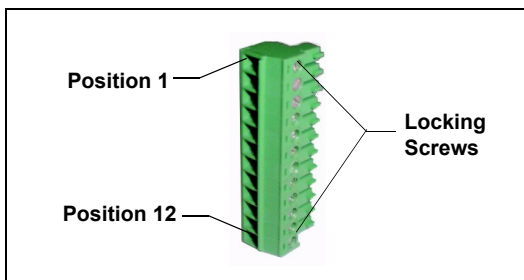

Figure 2-45. 12-Position Connector Plug
1. Locate the twisted pair of wires (P/N 043598) and 12-position connector plugs (P/N 923686) (see Figure 2-45) provided with the I/O option board.